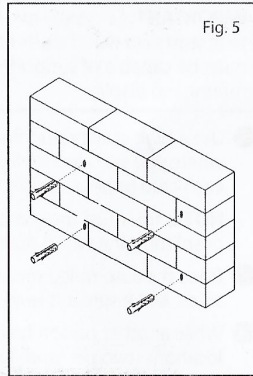

Fig. 5
- 4 Insert a concrete anchor (C) into each hole so that it is flush with the concrete surface (see Fig. 5). A hammer can be used to lightly tap the anchors into place if necessary.